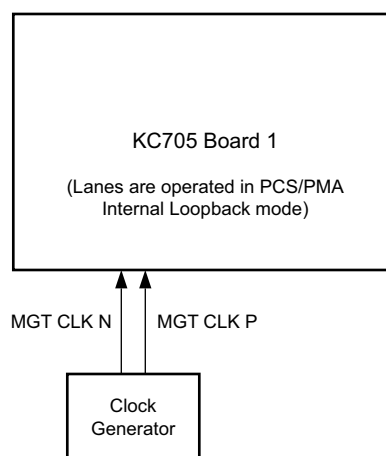

Figure 2: Four Lane Reference Design
2. A four-lane configuration using a single platform in loopback mode (see Figure 2).